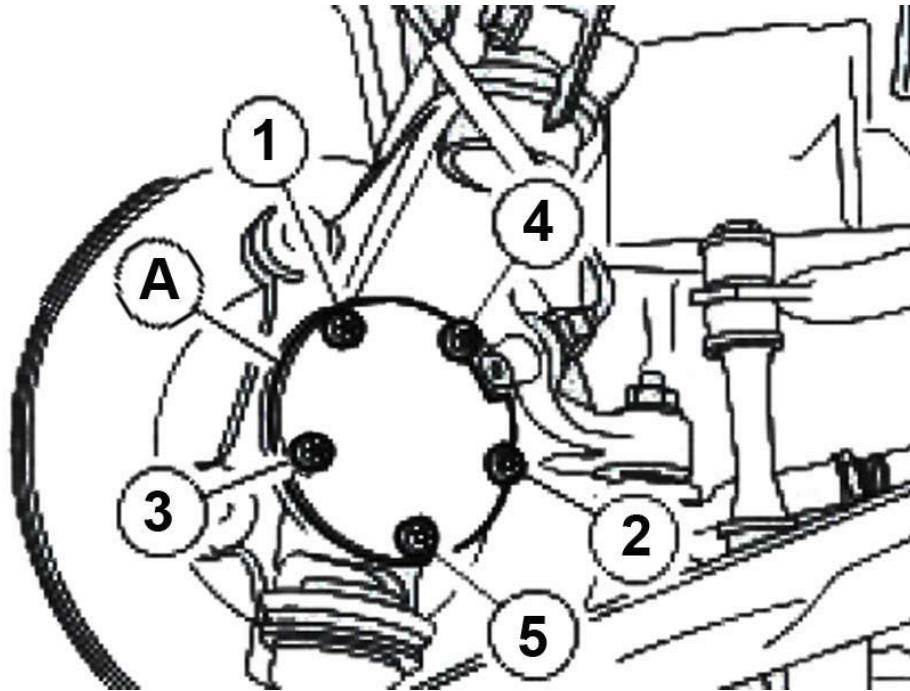

Fig. 1
12. Remove the wheel hub and brake disc assembly by tightening the retaining bolts in the sequence in the diagram (FIG 1).